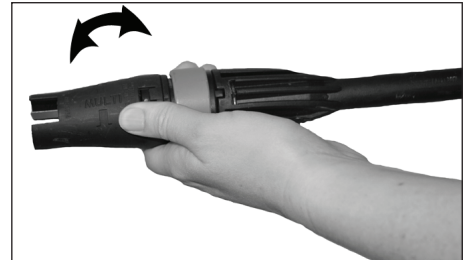

Figure 11 - Spray Adjust
4. Spray pattern shape and intensity can be changed by twisting the spray adjuster at the end of the lance (see Figure 11 & 12). Keep hands clear of the front of the lance to prevent injury.